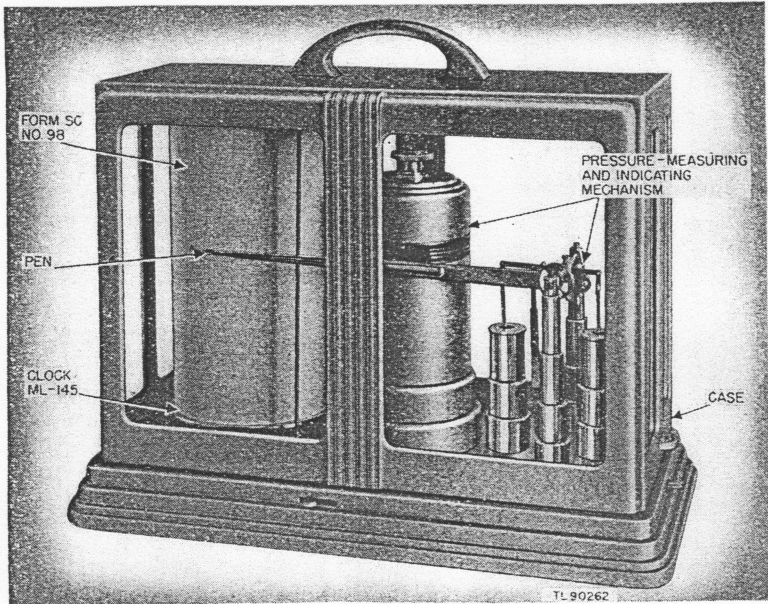

Figure 1. Barograph ML-3-(*).
2. COMPONENT PARTS. a. The component parts of Barograph ML-3-(*) (fig. 1) are:
3. CASE (fig. 1). a. The case of Barograph ML-3-(*) consists of a low raised base and a high hinged cover held closed by a catch.